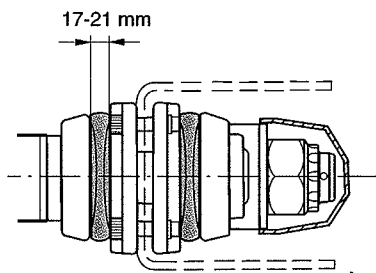

Figure 4
- To get the correct pre-loading on the rubber blocks, tighten the castellated nut until the distance between the edges of the beam plates is 17-21 mm. Use a 70 mm socket. See figure 4.